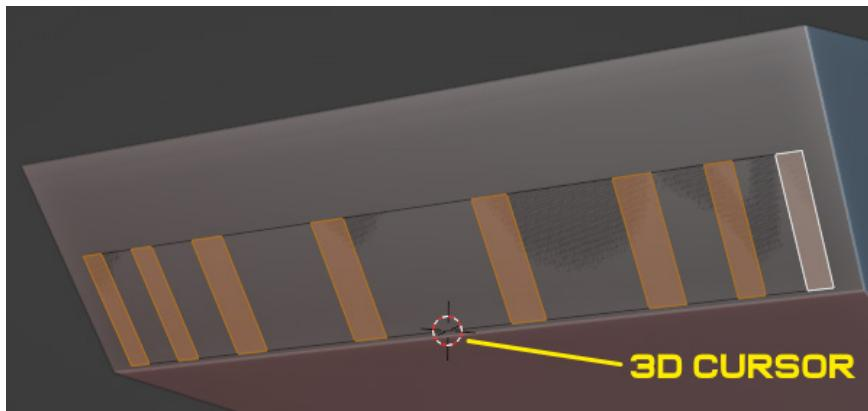

Figure 8.6 – Adding the edges
3. Repeat Step 2 to create more edges. The edges should create thin faces, arranged as shown in *Figure 8.6*. Place the 3D Cursor at the lower-middle edge.
4. Select the edges at the top of the faces, marked previously in *Figure 8.6*. Extrude the edges with *E*, and snap them back to their original place with the right mouse button.